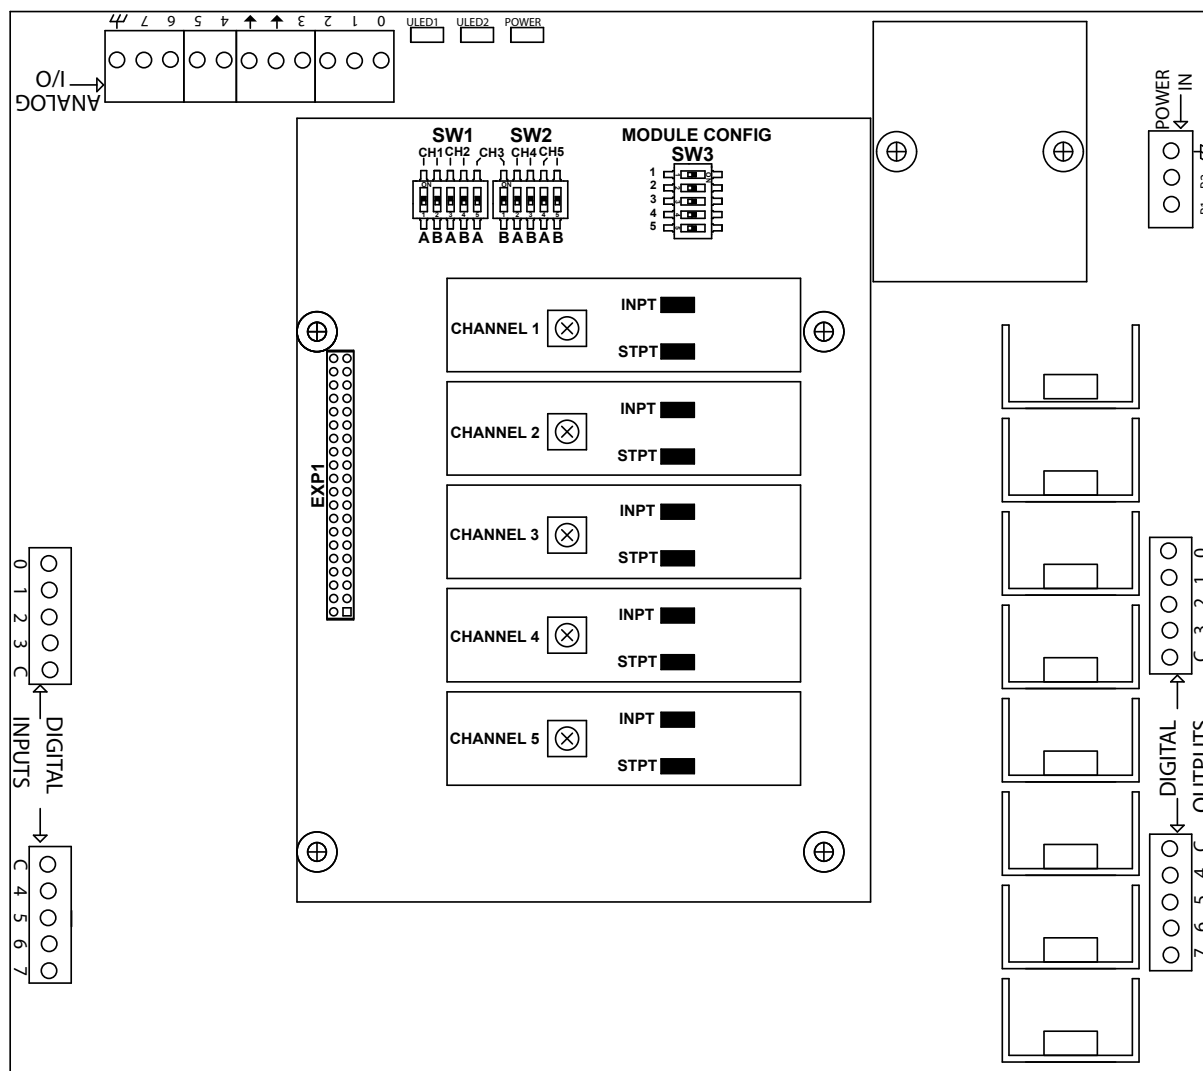

Figure 1-3 - ICM-PUI-01 Installed
3. Install a 4-40 screw and star lockwasher into each of the mounting hole and into the stand-off female end. Tighten to secure the ICM-PUI-01. Figure 1-3 represents the installed ICM-PUI-01.